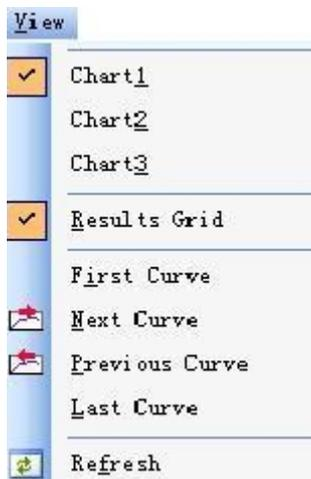

Figure 4-4
Click the menu item File (F) or press Alt + F key to proceed with the following Figure 4-4, these menu items to complete test file creation, open, write, or exit to the login form;
- ① New, create a new test; into the input window, see entry form on the input;
- ④ Save As, to save the current test data for the specified file name;
- ⑤ Save to general database, the test data saved to the results of the total database;
- ⑥ exit, to exit the program test function, return to the login form;
B View(V) menu functions; shown in Figure 4-4
Click the menu item View(V) or press the key combination Alt + V to proceed with the following Figure 4-4, the menu items show / hide the main form in the graph, the results grid, select the curve, the interface refresh;